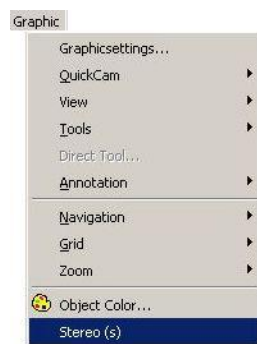

Figure 16: Select Stereo (s) Menu Item
- 2) Select the **Stereo (s)** menu item from the graphic menu. *Please refer to the Figure 16.*